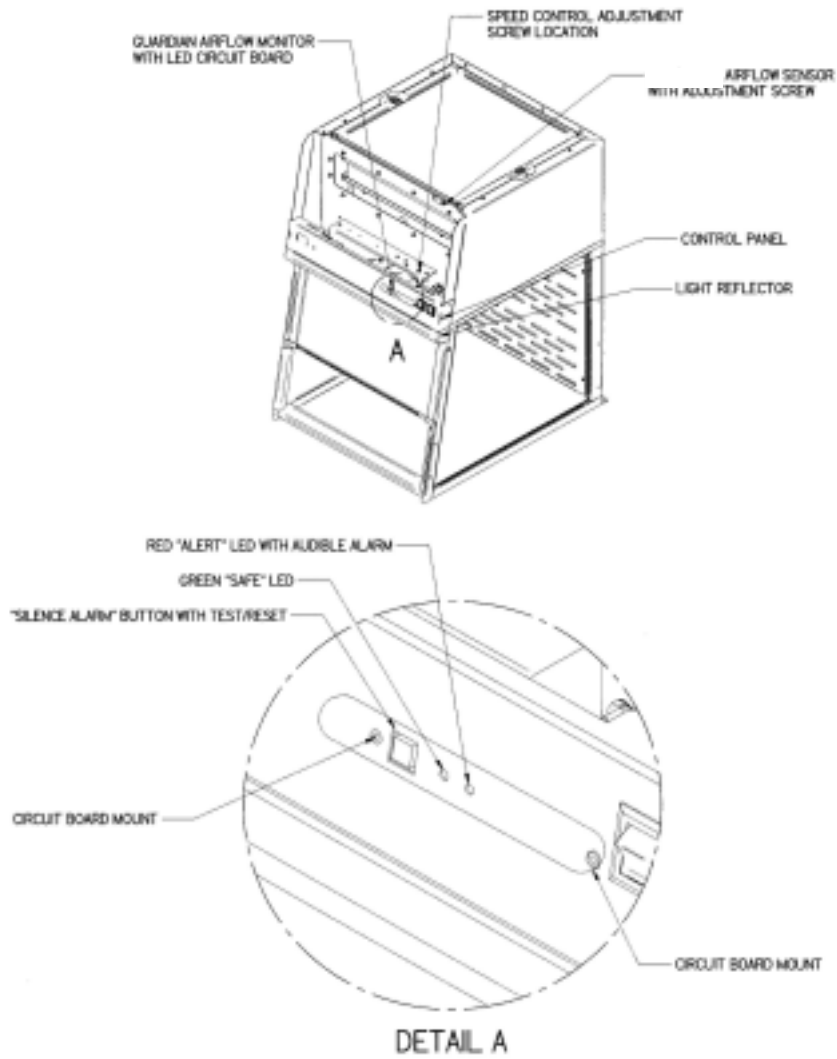

Figure 6-2
Refer to Figure 6-2 for operation and calibration.
2. Locate the small light reflector located under the control panel shown in Figure 6-2.